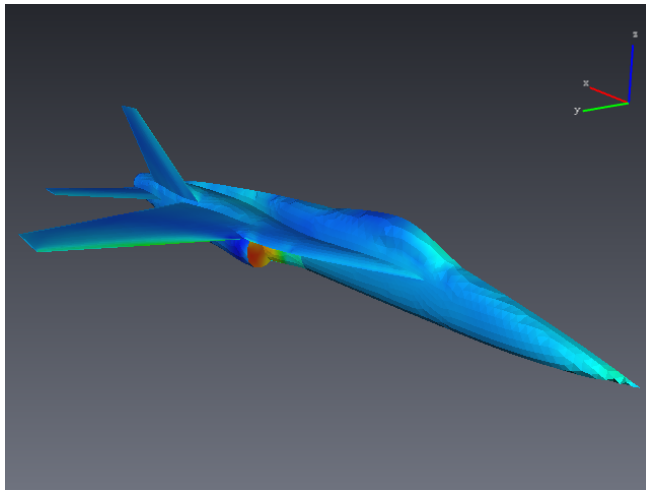

Figure 18.75: Pressure field on the boundaries of a YF-17 Cobra aircraft.
- Enlarge the view and rotate it in order to get a better image of the aircraft (see Figure 18.75).